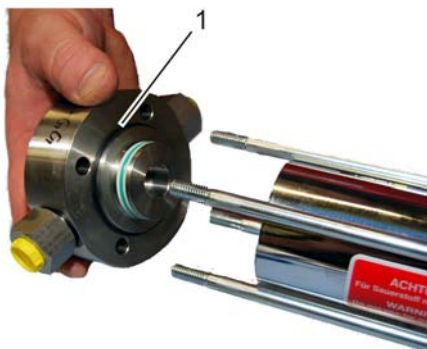

Fig. 88: Attaching booster head
- 9.** ➤ Carefully attach booster head (Fig. 88/1) on the stay bolts.